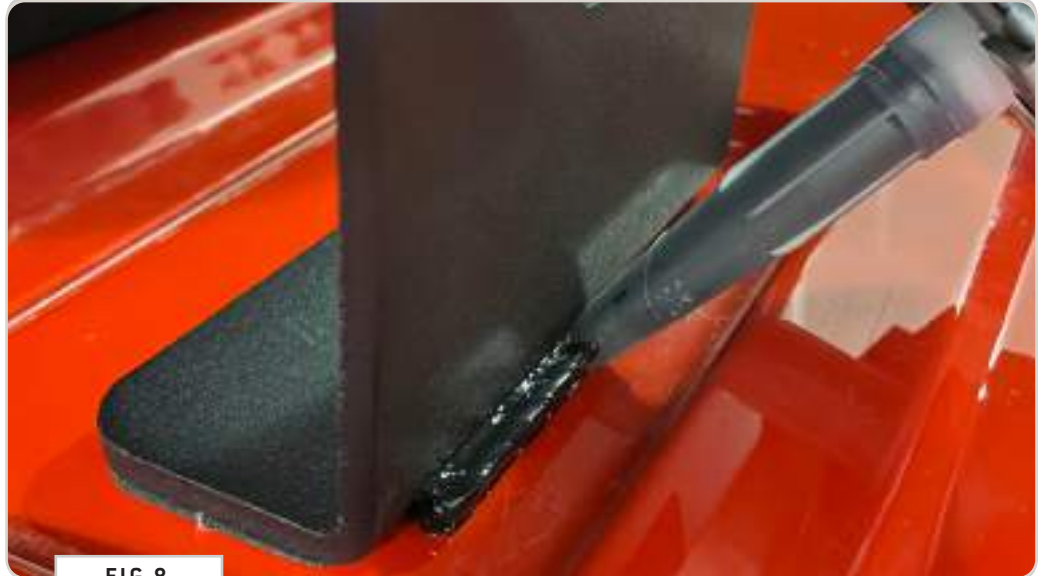

FIG 8
**2.2 Apply Sealant:** Apply a small bead of exterior waterproof sealant around the outside of each landing pad (**FIG 8+9**).